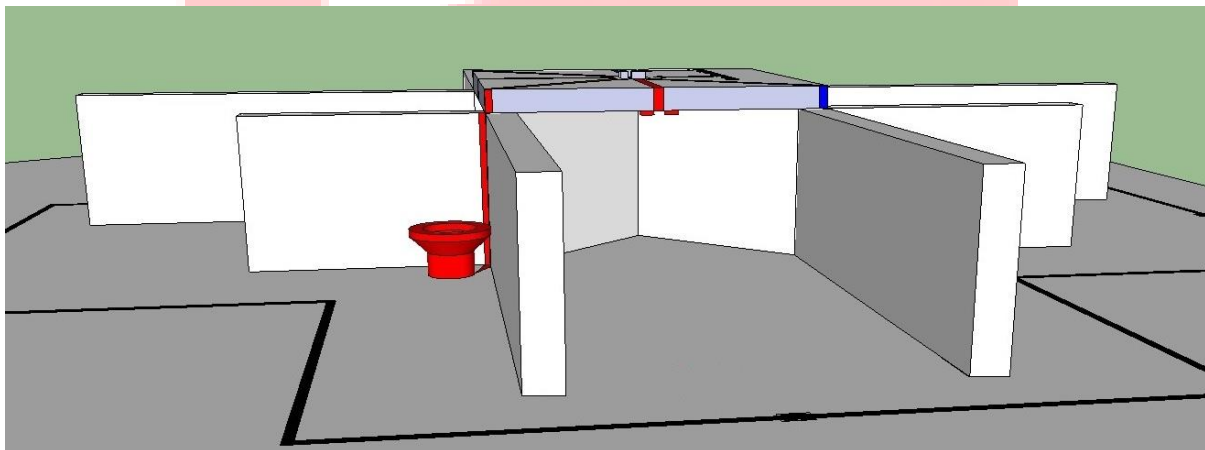

Figure 4: Entrance to the Pipeline Areas
- **Walls:** Every pipeline area is surrounded by walls with opening at the entrance and a **Ceiling** as shown in Figure 4. The length of these walls can vary according to their placement in the arena. The preparation and the placement of these walls and Ceiling are explained below in Section 3.2.